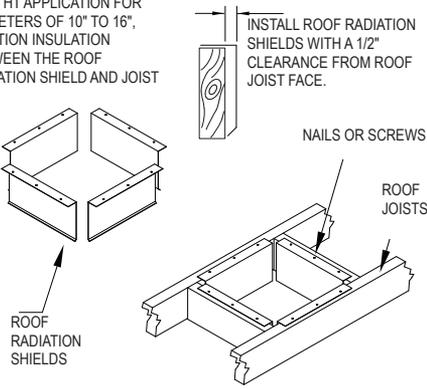

Figure 8
Note: Combustible materials will still need to be a minimum of 2" away from the chimney. Roof Radiation Shields must be installed with their face 1/2" off of the roof framing joists (**Fig 8**). Depending upon the pitch of your roof, trim the
Roof Radiation Shields with tin snips so they provide complete coverage of the roof framing exposed to the chimney. Secure the Roof Radiation Shields to the top of the framing members using at least (3) nails or screws for each shield (**Fig 8**).